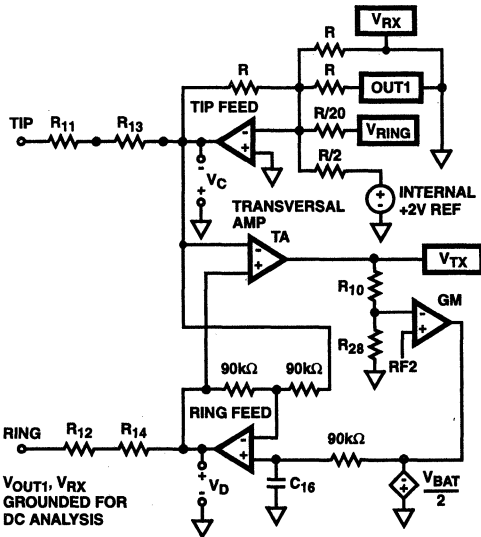

FIGURE 1. OPERATION OF THE TIP AND RING AMPLIFIERS
The tip and ring amplifiers are voltage feedback op amps that are connected to generate a differential output (e.g. if tip sources 20mA then ring sinks 20mA). Figure 1 shows the connection of the tip and ring amplifiers. The tip DC voltage is set by an internal +2V reference, resulting in -4V at the output. The ring DC voltage is set by the tip DC output voltage and an internal $V_{BAT}/2$ reference, resulting in $V_{BAT} + 4V$ at the output. (See Equation 1, Equation 2 and Equation 3.)
Current limiting is achieved by a feedback network (Figure 1) that modifies the ring feed voltage (V_D) as a function of the loop current. The output of the Transversal Amplifier (TA) has a DC voltage that is directly proportional to the loop current. This voltage is scaled by R_{10} and R_{28} . The scaled voltage is the input to a transconductance amplifier (GM) that compares it to an internal reference level. When the scaled voltage exceeds the internal reference level, the transconductance amplifier sources current. This current charges C_{16} in the positive direction causing the ring feed voltage (V_D) to approach the tip feed voltage (V_C). This effectively reduces the tip feed to ring feed voltage (V_{T-R}), and holds the maximum loop current constant.